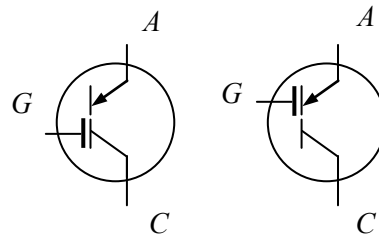

Fig. 1.55
**MOS-controlled thyristor.** A *MOS-controlled thyristor* (MCT) is a voltage-controlled device like the IGBT and the MOSFET, and approximately the same energy is required to switch an MCT as for a MOSFET or an IGBT. There may be a *p*-MCT and an *n*-MCT, as given in Fig. 1.55. The difference between the two arises from different locations of the gate.